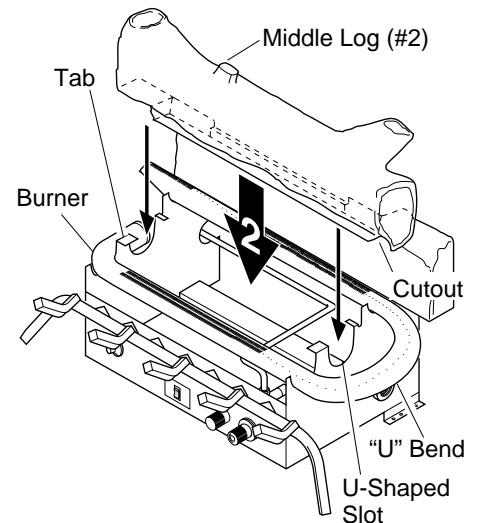

Figure 22 - Installing Middle Log (#2)
2. Place the base of the middle log (#2) in the U-shaped slots of the grate base in front of the back log. The cutout on the right of the middle log should fit over the burner (see Figure 22). Make sure the front of the middle log is resting on the tabs of the grate base and the cutout area is centered over the burner "U" bend.